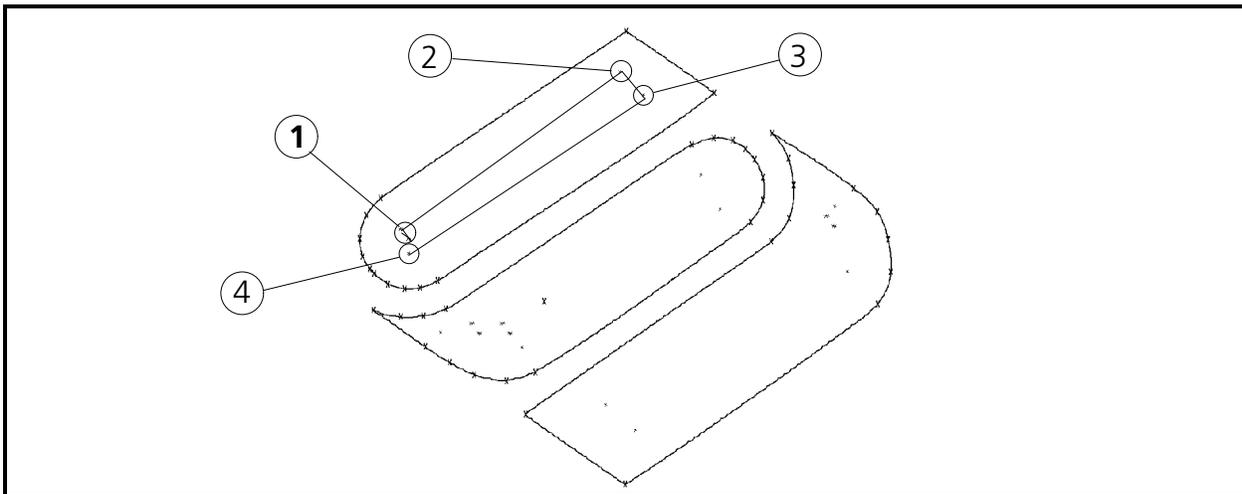

Figure 6-74
4. Locate the file named sfill.pcx and load it into the EDS III Object Edit window. When loaded properly the image on the display will look similar to the illustration in Figure 6-74.
4. Click in the area in the shape identified as location 1 in Figure 6-74 and enter a Mk1.
6. Generate the lock stitches, then put down a running stitch underlay by entering Mk1s at locations 2 through 4 as shown in Figure 6-74.